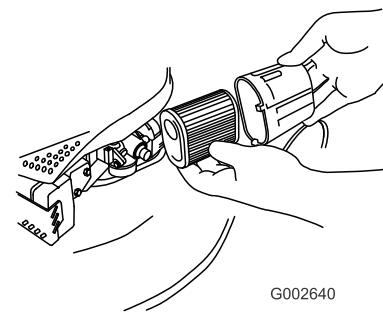

Figure 36
2. Rotate the air filter cover to remove it (Figure 36).